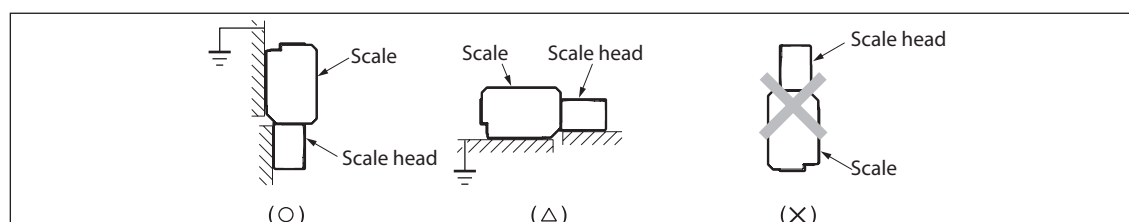

Fig. 3-2
- The scale head will be damaged if the scale head is moved outside the effective length (L). The scale head must always be moved within the effective length.
- Install the scale unit so that the scale is on the upper side of the scale head. If the upper side is not available, set it to face horizontally. (Fig. 3-2)